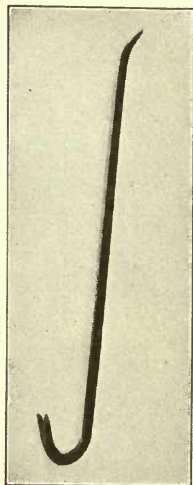

FIG. 52.
1. Shape one end to a chisel edge two inches long, and bend as shown in Fig. 52 and Plate 27.